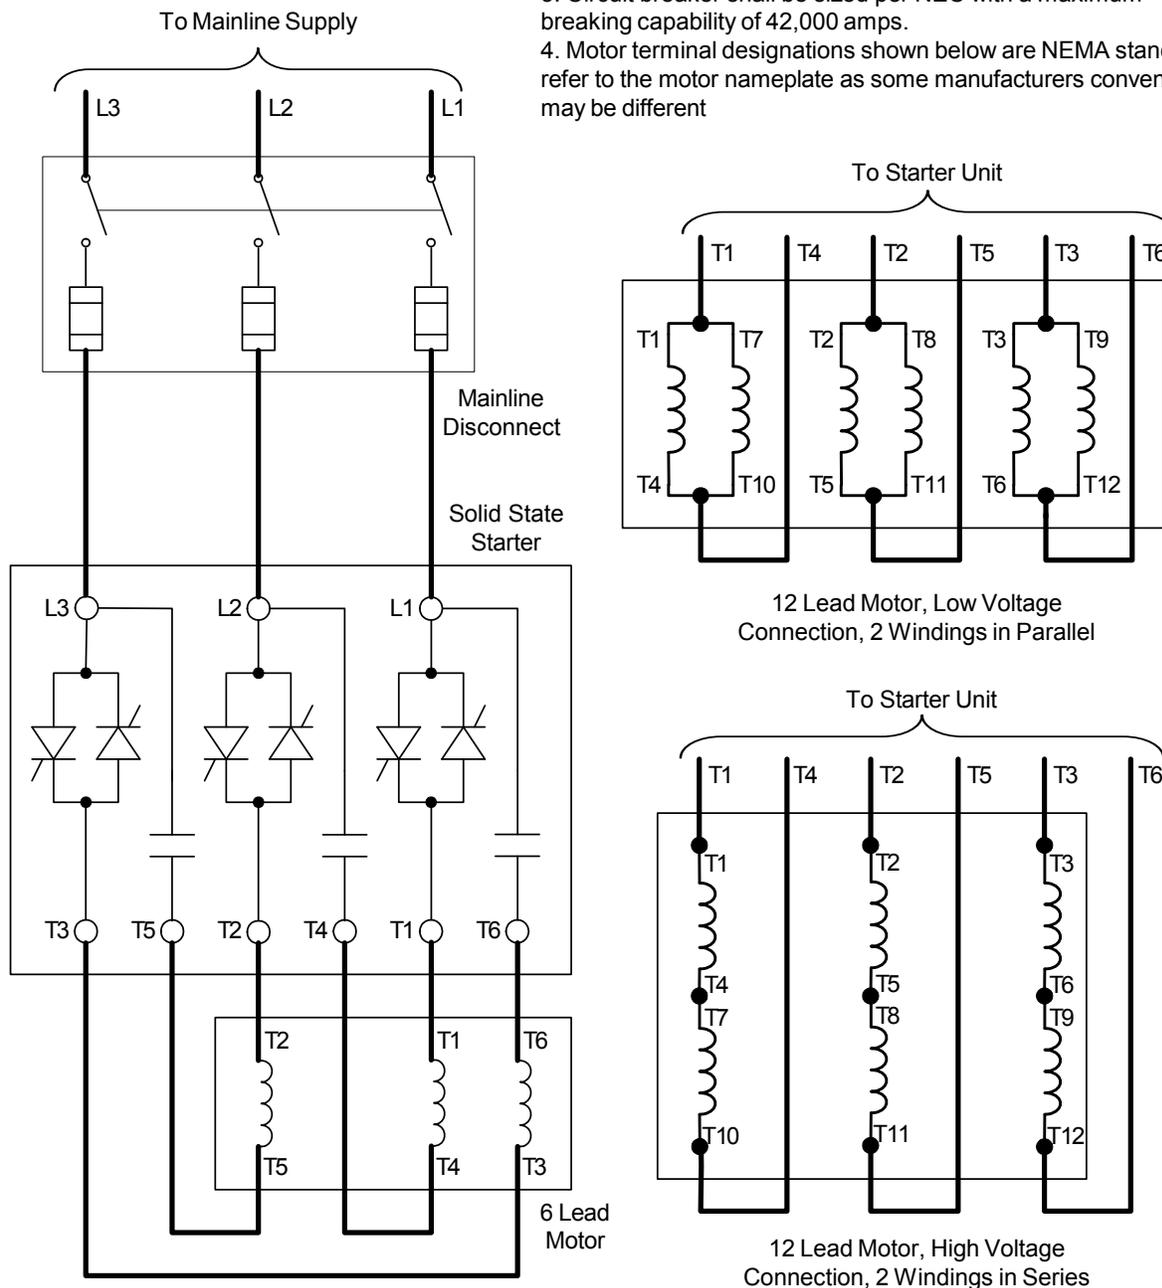

Figure 6: Mainline and Motor Wiring for Inside-Delta Connection
Refer to Figure 6, Mainline and Motor Wiring for Inside-Delta Connection. Connect the mainline supply from a fused disconnect or circuit breaker to power module terminals L1, L2, and L3. Connect the motor to power module terminals T1, T2, T3 and fault contactor (FC) terminals T4, T5, and T6. Torque the mainline power and motor terminal setscrews according to Table 6 or the labels on the power module and FC terminal blocks.
The inset shown in Figure 6 is for a typical 12-lead, dual voltage motor; it is important to maintain the correct pairing of motor leads. Motor windings must be connected according to the manufacturer's terminal designations. Motor wires are identified to designate phase pairs **and** polarity. The direction in which a motor winding encircles its core establishes the polarity. If a phase pair is swapped, for example, connecting T4, T1 in place of T1, T4, the T1–T4 magnetic field is reversed and the motor will run poorly.